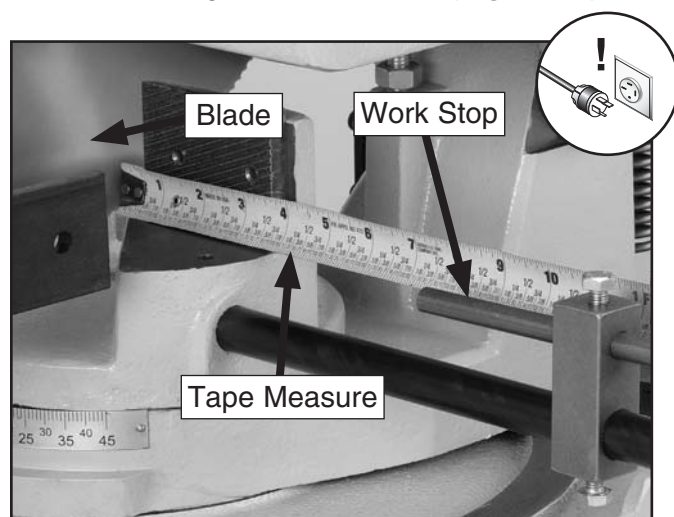

Figure 32. Measuring length of cut.
4. Measure from the side of the blade to the work stop. Slide the work stop until the distance between the blade and the work stop is equal to the desired length of the piece being cut, then tighten the hex bolt (**Figure 32**).